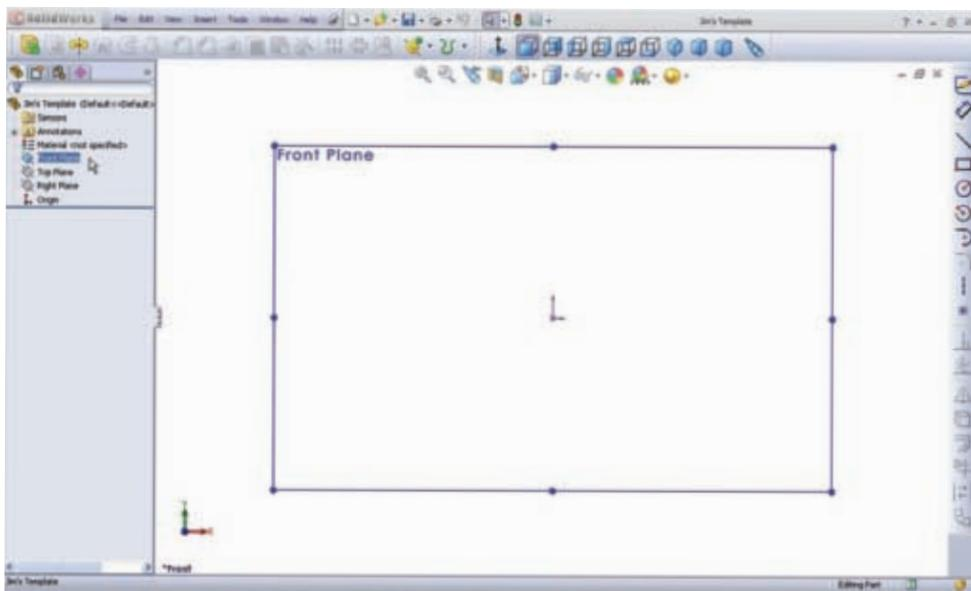

Figure 6-7 Select a plane to begin modeling. In this case, the front plane was chosen.
7. Begin modeling by choosing a plane. (see Fig. 6-7)